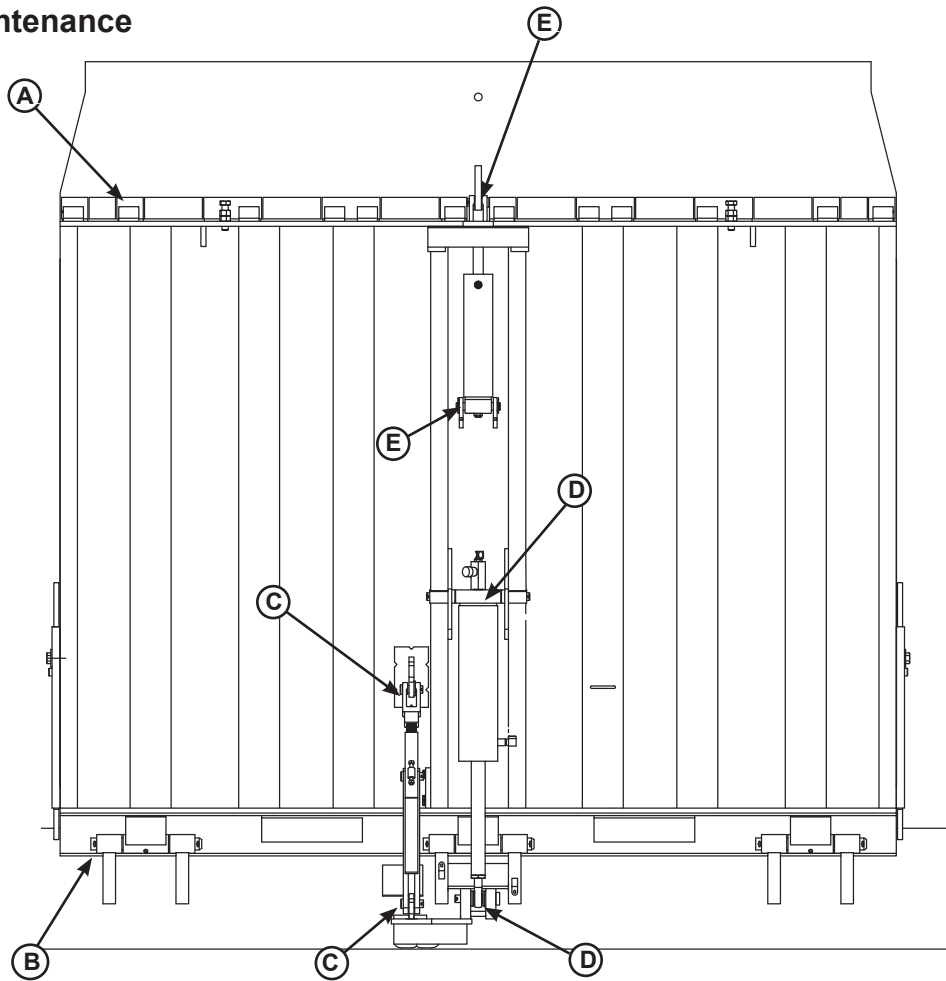

Figure 27
- Lubricate the following areas with light weight machine oil (see Figure 27):